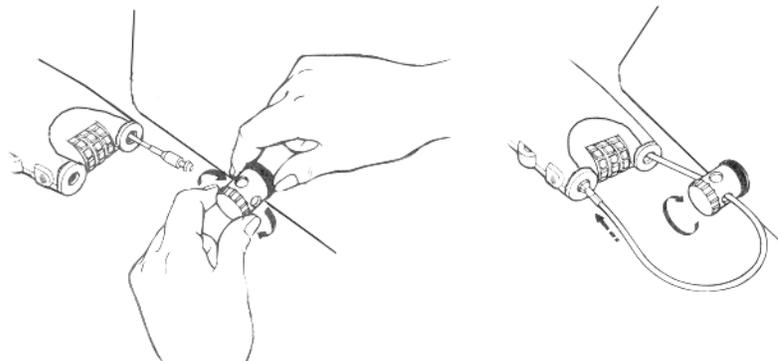

Figure 11
- b. Push and turn ribbed knob of the Projector Slot Attachment Adapter clockwise to engage the feet and align holes into position, allowing the cable to pass through holes of Projector Slot Attachment Adapter (see Figure 11).